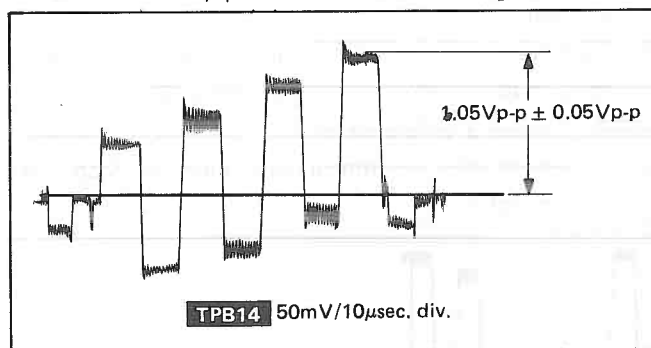

Fig. 40
- Adjust R5106 (Sub. Color) so that the waveform **TPB14** becomes $1.05Vp-p \pm 0.05V$ as shown in Fig. 40.